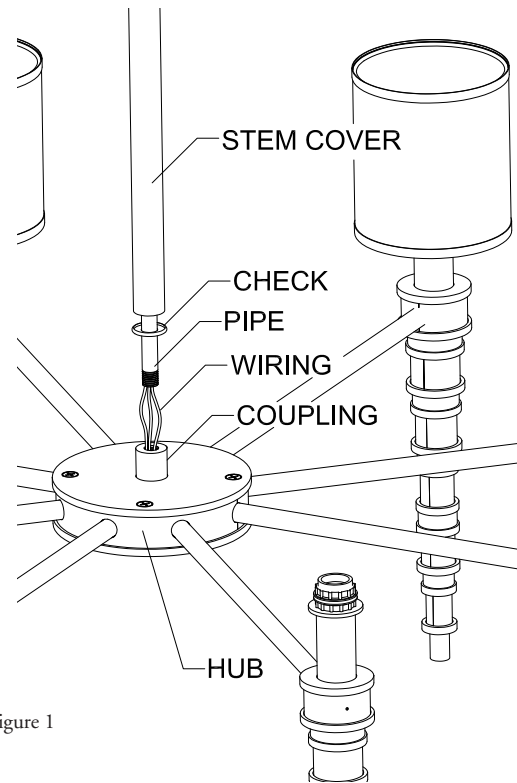

Figure 1
Step 4 Carefully slide the decorative centering check and stem tubing over the steel threaded pipe. Place the second decorative centering check over the pipe at the top and use to center up the decorative stem. (See Figure 1)